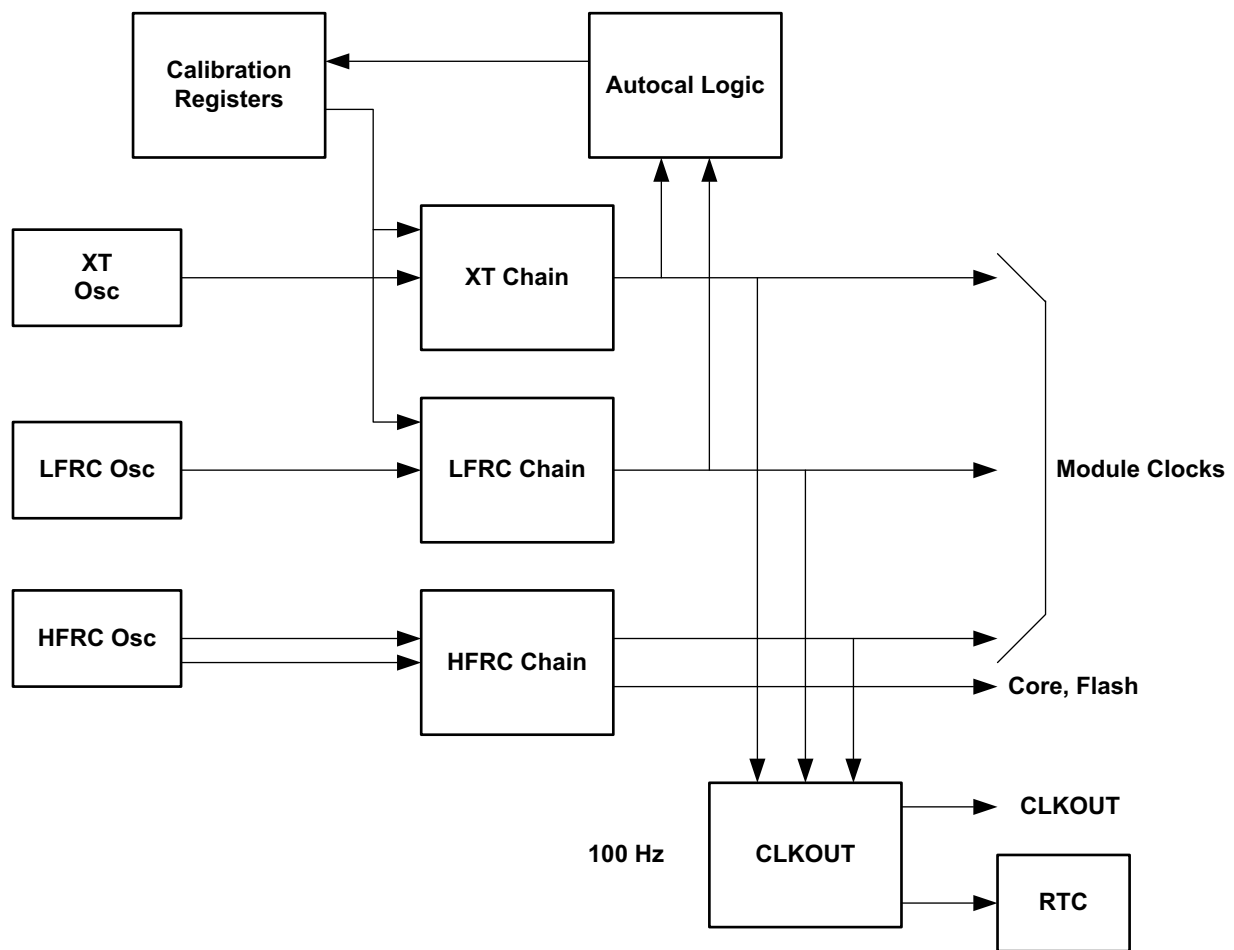

Figure 61. Block diagram for the Clock Generator and Real Time Clock Module
A high-level view of the Clock Generator Module, which supplies all clocks required by the Apollo3 Blue SoC, is shown in Figure 61. These clocks are derived from one of three fundamental clock sources: a high precision crystal controlled oscillator (XT), a low power 1 kHz RC oscillator (LFRC) and a high frequency 48/96 MHz oscillator (HFRC).